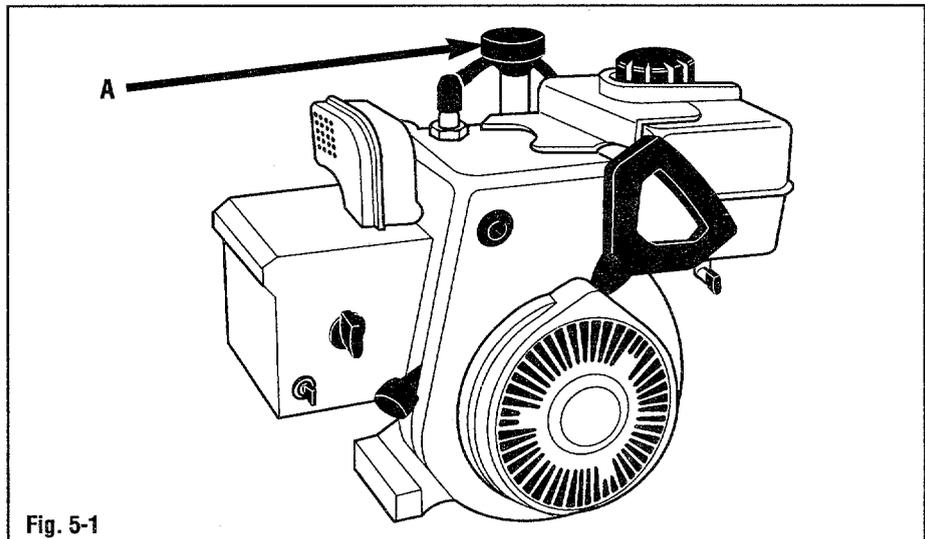

Fig. 5-1
3. Remove the engine oil dipstick (A, Fig. 5-1).
6. Remove the engine oil dipstick (A, Fig. 5-1) again.
4. Remove the engine oil dipstick (A, Fig. 5-1) to allow venting for the engine crankcase.